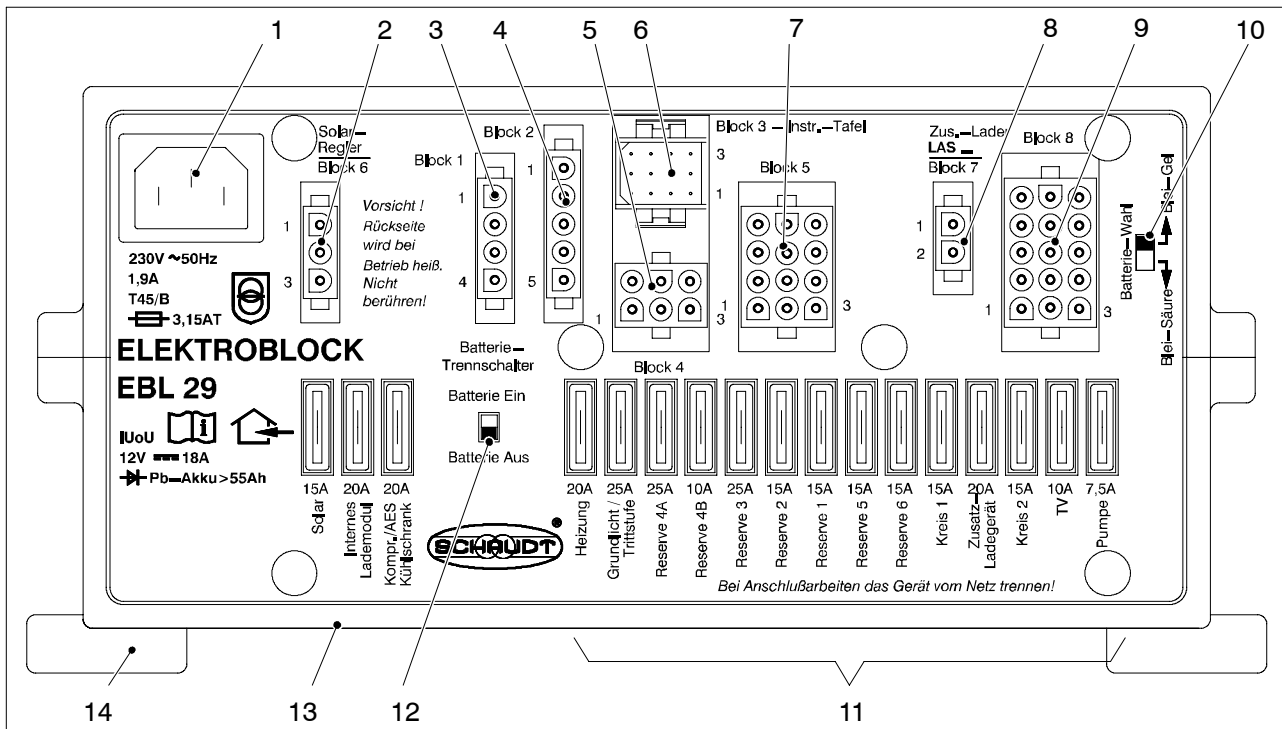

Fig. 3 Layout of the EBL 29 electroblock (front)
- ▶ Move the battery cut-off switch (see Fig. 3, Pos. 12) to the "Battery OFF" position. The following connections are isolated from the living area battery: